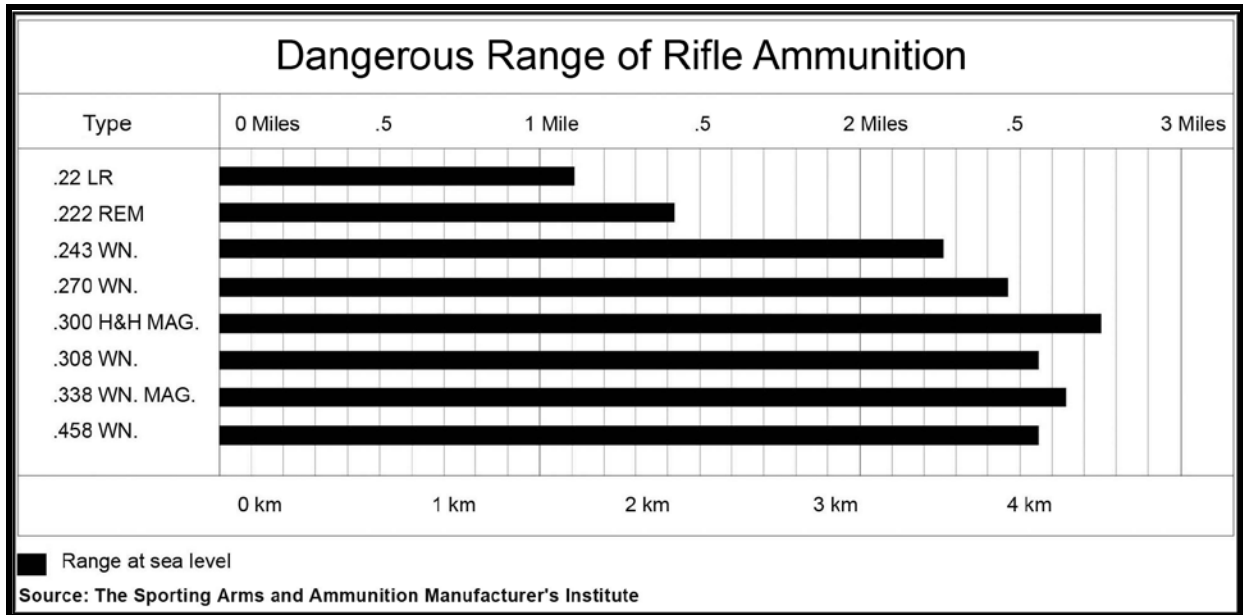

Figure 37. Dangerous Range of Rifle Ammunition
- e. You want to hunt or shoot safely. Therefore, you need to know how far your projectile will travel. That means you need to know the dangerous range (Figures 37 and 38).